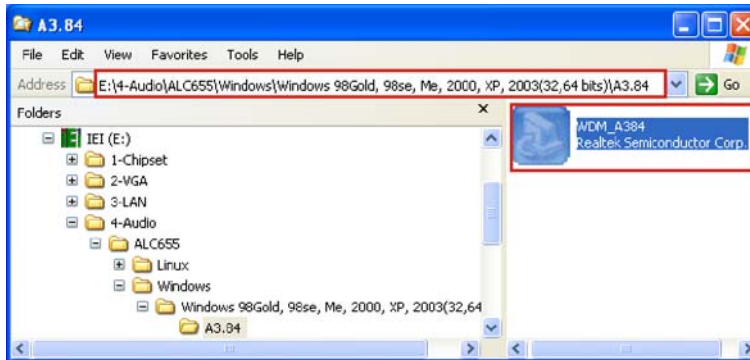

Figure 7-21: AC'97 Audio Driver Options
Step 3: Browse to "E:\4-Audio\ALC655\Windows\Windows 98Gold, 98se, Me, 2000, XP, 2003(32,64 bits)\A3.84" Figure 7-21
Step 4: Double-click the installation file in **Figure 7-21**.